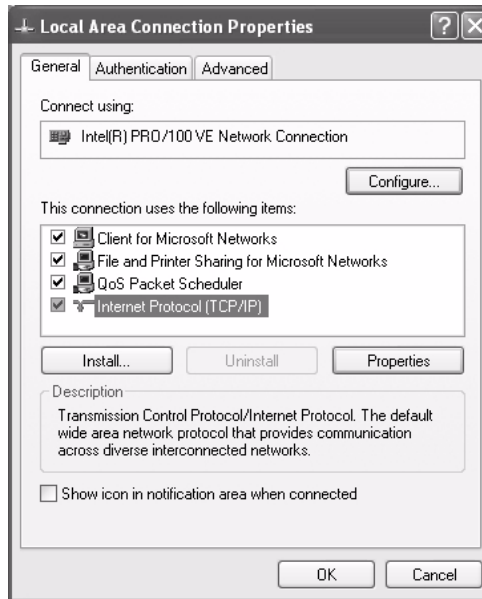

Figure 73: Local Area Connection Properties - Windows XP
4. Ensure that Client for Microsoft Networks and Internet Protocol (TCP/IP) are installed and checked as shown in Figure 73. If NetBEUI is installed, uninstall it.